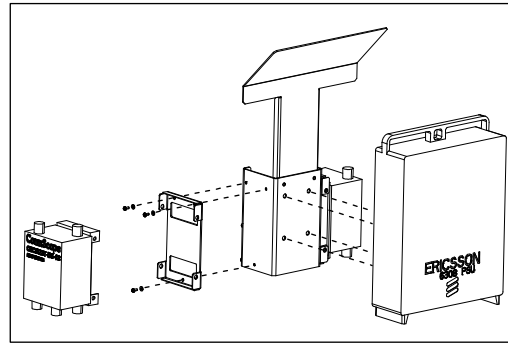

Figure 7
3. Attach the diplexer brackets to the sides of the power supply bracket using three 10-32 Philips screws per bracket (Figure 7).
4. Attach the two diplexers to the diplexer brackets using customer supplied hardware (Figure 7).